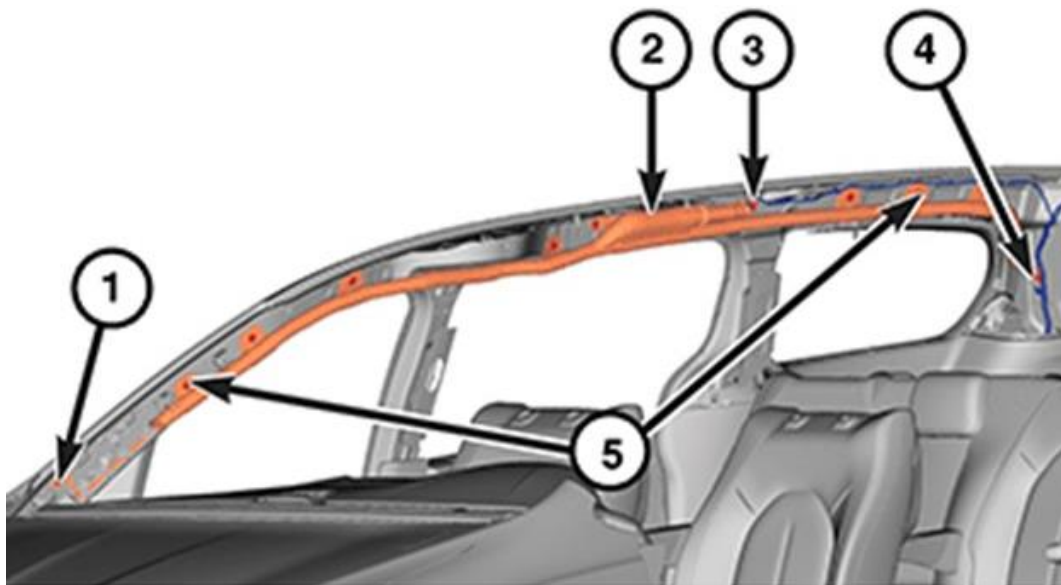

Figure 25 – Side Curtain Airbag (CAB)
55. Disconnect the body wire harness connector for the CAB from the connector receptacle of the inflator above the front door opening (Figure 25).
56. Remove the fastener that secures the airbag front tether to the A-pillar (Figure 25).
57. Remove the fastener that secures the airbag rear tether to the D-pillar (Figure 25).
58. Remove the fasteners that secure the CAB to the inner roof rail (Figure 25).
59. Remove the CAB from the vehicle as a unit and **DISPOSE** of in a proper manner (Figure 25).
61. Clean the CAB mounting studs with mineral spirits, toluene, or equivalent (Figure 25).
62. Apply blue threadlocking compound Mopar Part Number 04318031AB (MS-90061) or equivalent to the CAB mounting studs (Figure 25).
63. Install the **NEW** CAB to the vehicle as a unit (Figure 25).
65. Working from front to rear, install the fasteners that secure the CAB and the inflator bracket to the inner roof rail and tighten to 6 N·m (53 in. lbs.) (Figure 25).
66. Install the fastener that secures the airbag front tether to the A-pillar and tighten to 6 N·m (53 in. lbs.) (Figure 25).
67. Install the fastener that secures the airbag rear tether to the D-pillar and tighten to 6 N·m (53 in. lbs.) (Figure 25).
68. Connect the body wire harness connector for the SABIC to the connector receptacle of the inflator above the sliding door opening (Figure 25).